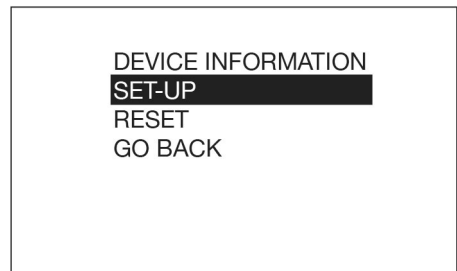

FIG. 18
- Select the **SET-UP** option (FIG. 18).